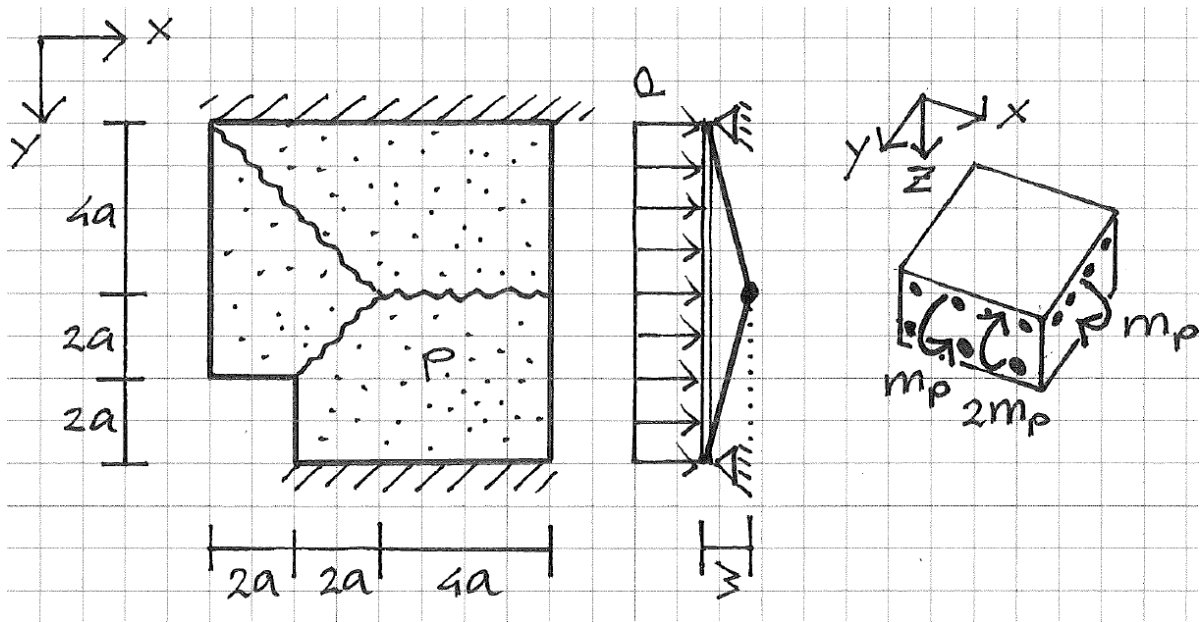

Figure 3. Plate dimensions and reinforcement
A reinforced concrete plate is simply supported at some of its edges (Fig. 3). It carries an evenly distributed load p . The plate is homogeneous and orthotropic.
- b Consider the yield line pattern of Figure 3. Determine an upper bound for p expressed in m_p and a (1.5 point).